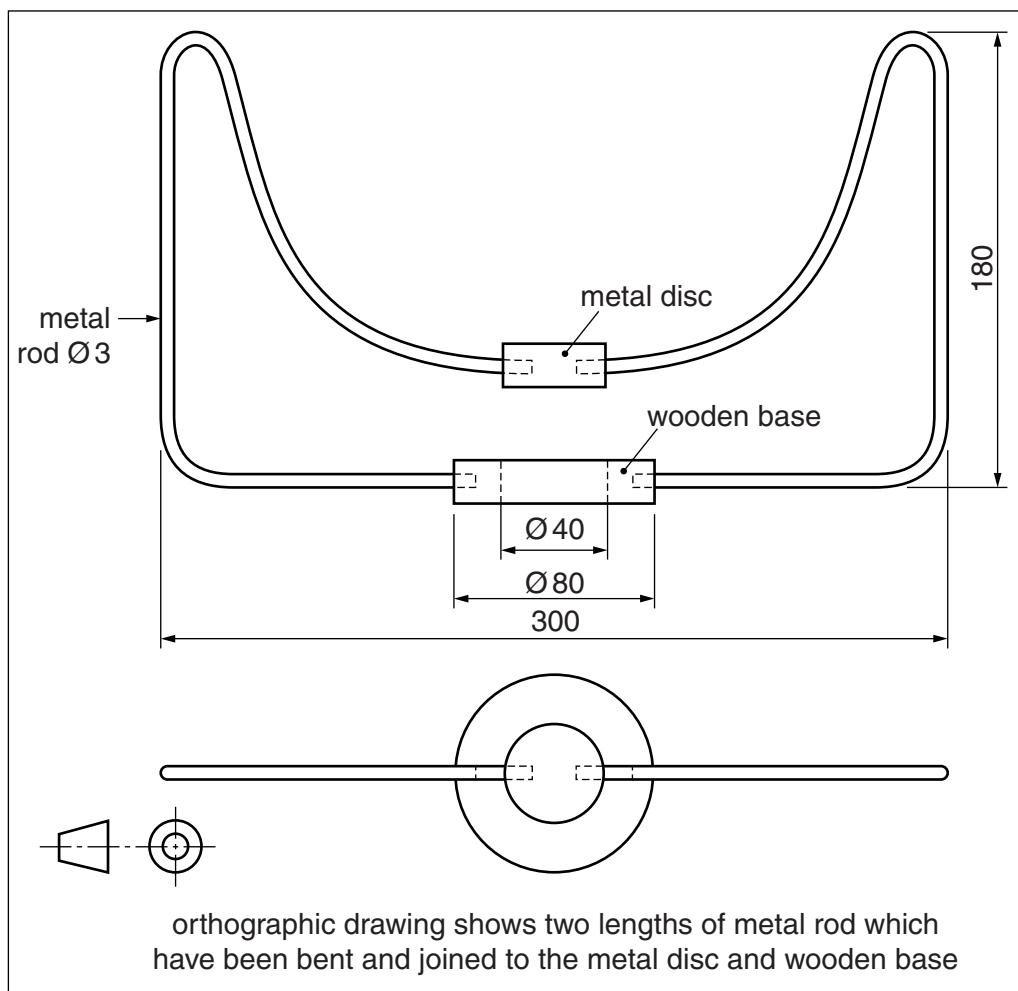

Fig. 2
- 2 Fig. 2 gives details about a fruit bowl which is to be made in a school workshop. The bowl is to be made from 30 lengths of 3 mm diameter metal rod which will be bent and then joined to a metal disc and a wooden base.